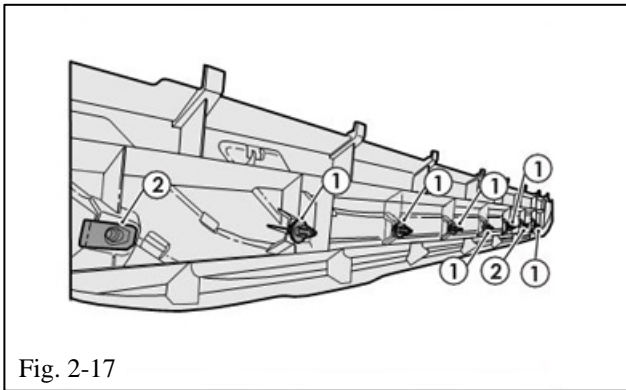

Fig. 2-17
- (o) Install 6-plastic clips (1) and 2-U-nuts (2) into the plastic step (Fig. 2-17).